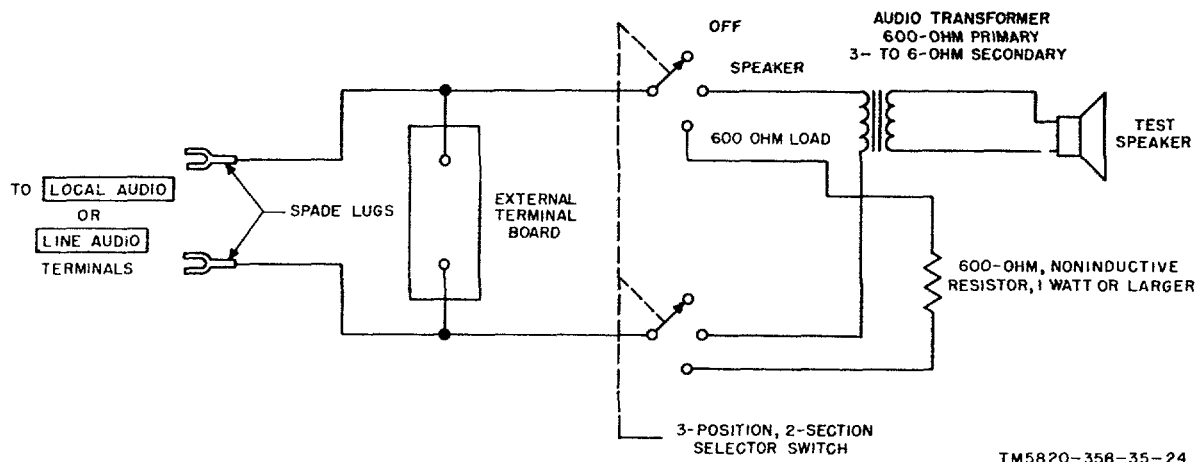

Figure 35. Test-speaker assembly fabrication.
c. A test-speaker assembly (fig. 35) is useful when testing or troubleshooting the receiver. Connect the spade lugs to the LOCAL AUDIO or LINE AUDIO terminals on the rear panel of the receiver. The three-position, two-section rotary switch can be adjusted to an OFF position, a SPEAKER position, or a 600 OHM LOAD position. The external terminal board provides tie points for the ME-30/U. The test-speaker assembly can be made from general-purpose parts. The only critical item is the 600-ohm, noninductive resistor. Use a 2-watt carbon resistor with a tolerance of  $\pm 5$  percent.